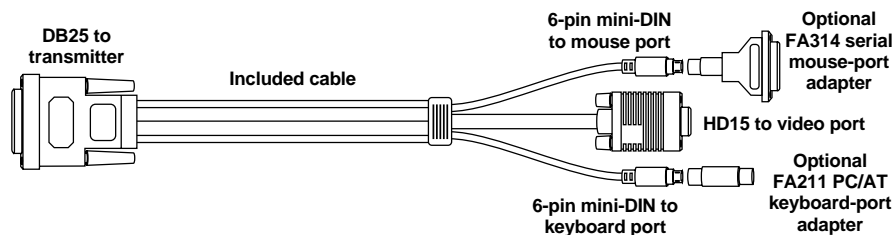

Figure 3-2. The Extender's included three-to-one cable and optional adapters you can use with it.
2. Plug the composite end of the included three-to-one cable, shown in Figure 3-2, to the transmitter's DB25 connector.